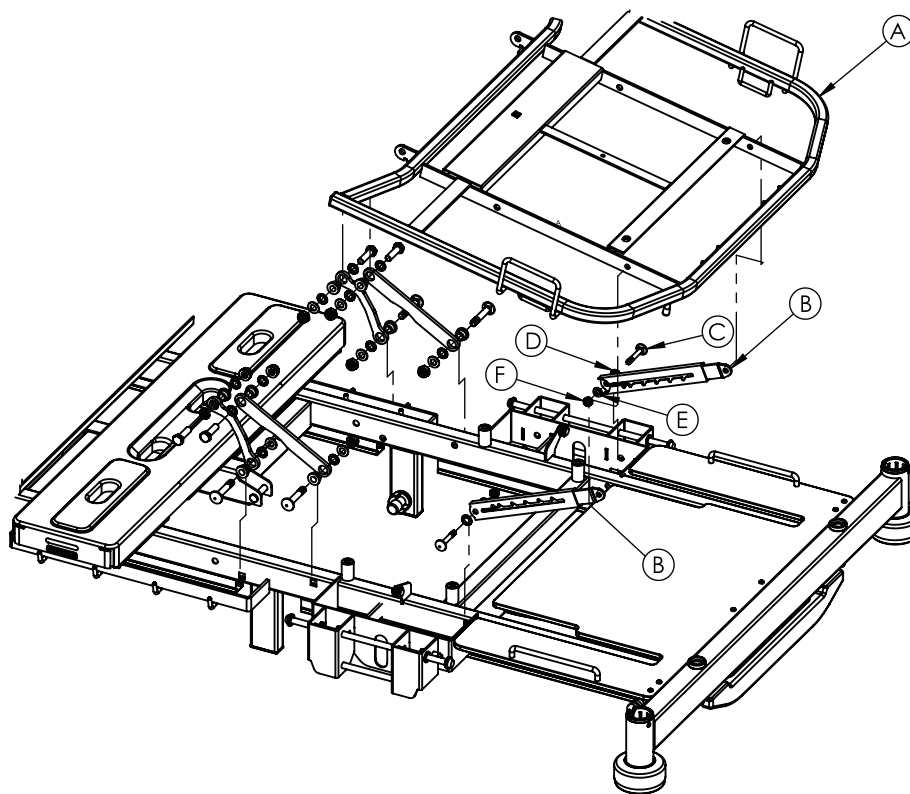

Figure 10: Lower leg section locking mechanism
4. Raise the lower leg section (A) (Figure 10 on page 49).
6. Using a 13 mm combination wrench and a 13 mm socket, remove and save the upper bolt and nut that secure the lower leg section locking mechanism (B) to the foot section weldment (Figure 10 on page 49).
7. Using a 13 mm socket, remove and save the bolt (C), washers (D, E), and nut (F) that secures the bottom of the lower leg section locking mechanism to the litter frame (Figure 10 on page 49).
8. Remove and discard the lower leg section locking mechanism (B) (Figure 10 on page 49).